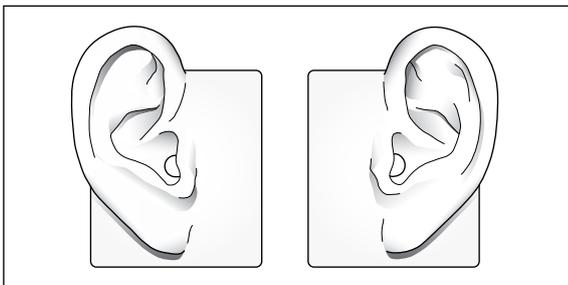

Fig. 5. Large pinnae. The anthropometric pinnae have the same outer shape.
- Large pinnae corresponding to the large ears typical of American and European males (Fig. 5). These pinnae are identical to the original pinnae on which all subsequent standards are based. (See IEC 60318-7:2017 Head and Torso Simulator)